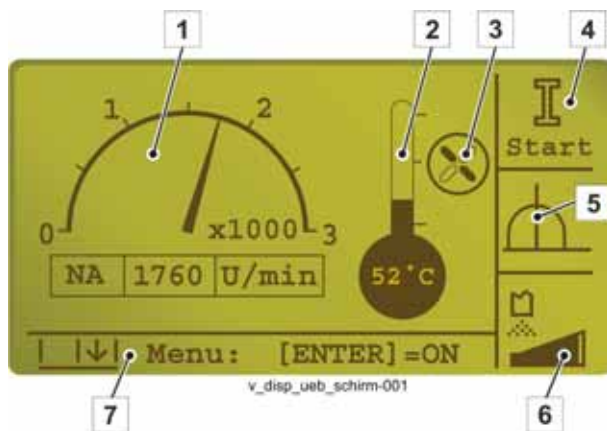

Fig. 74 Start screen
"LOCAL" operating mode active! Field (5) (Fig. 74) on the display shows this symbol.
While the "Local" operating mode is active, the following symbols may be displayed in field (4) on the start screen (**Fig. 74**).